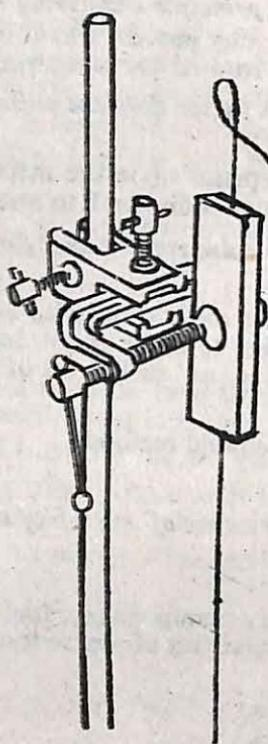

Fig. 17.2.
*The more massive the support the more successful is the experiment. A light support allows energy to leak away. So does a loose support. Therefore, the pendulum cord should be firmly clamped at the top between two bits of metal or wood with their lower edges flush as shown in Fig. 17.2.*